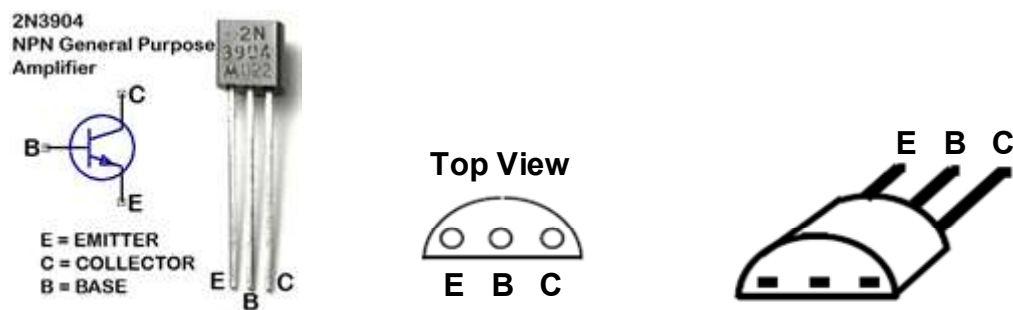

Figure 5.4: Pin diagram for BJT 2N3904
- Figure 5.4 shows the pin configuration of the 2N3904 transistor. Use the curve tracer to obtain the output characteristics of the NPN transistor. Set menu to BIP-NPN (bipolar-NPN),  $V_{\max} = 10$  volts,  $I_{\max} = 2\text{mA}$ , and  $P_{\max} = 0.4\text{W}$ .